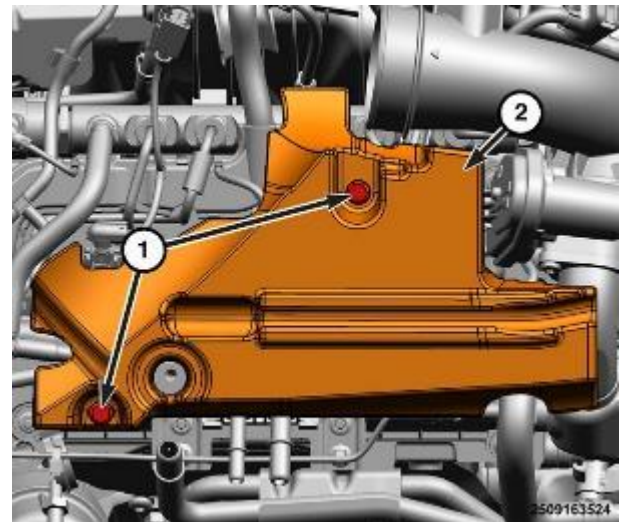

Figure 108– Fuel Rail Cover
28. Remove the left fuel rail cover bolts (1) and the left fuel rail cover (2) (Figure 108).